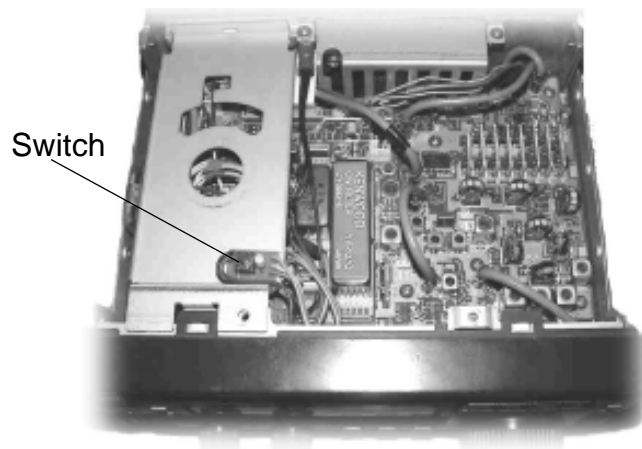

Figure 5. Switch mounting detail.
17. Place two thicknesses of double sided tape to the front right corner of the speaker bracket and mount switch PCB (see figure 5).